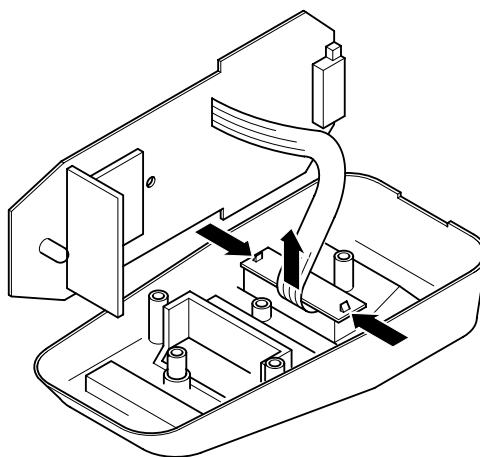

Figure 22: Charger PCB removal (2)
5. (Figure 22) Disconnect and remove the charger PCB.